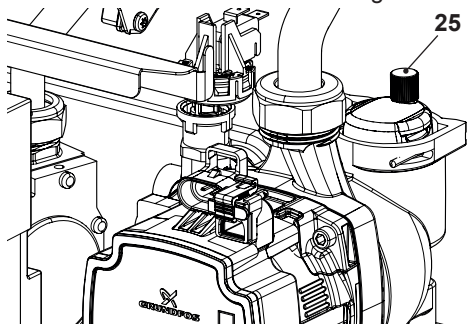

Fig. 10.10
- To make draining easier, lift the plug 25 of the automatic relief valve in Fig. 10.10.